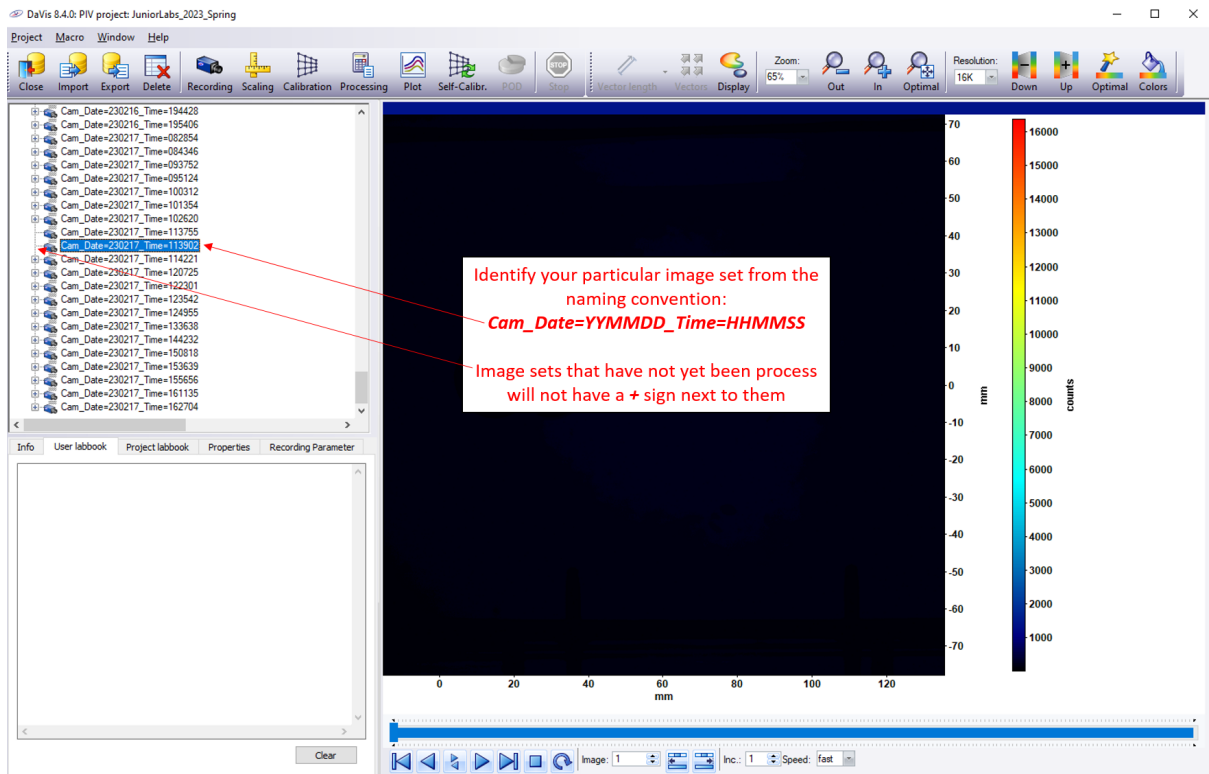

Figure 10: Identify **your** recording using the time and date stamps in the recording name.
- Right click on “Cam_Date=(Today’s date) Time=(time of recording)”. Under Cam_Date, the first two digits indicate year, the middle two digits indicate months and last two digits indicate the day. Under Time the first two digits indicate hours the middle two digits indicate minutes and last two digits indicate seconds, see Figure 10. *Make sure that you are processing the data you just recorded!*